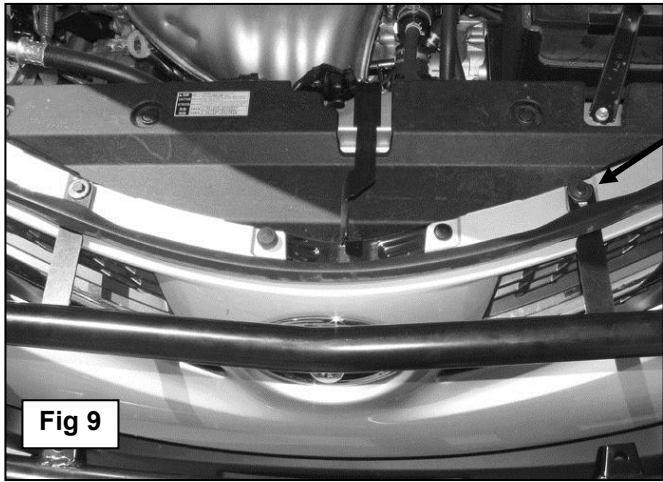

Fig 9
Bolt the Top Bracket to the top of the grille with (1) 6mm x 25mm Hex Bolt, (1) 6mm Lock Washer and (1) 6mm x 22mm OD x 2mm STD Flat Washer, **(Figure 9)**. Repeat this Step for the passenger side Top Support Bracket installation.